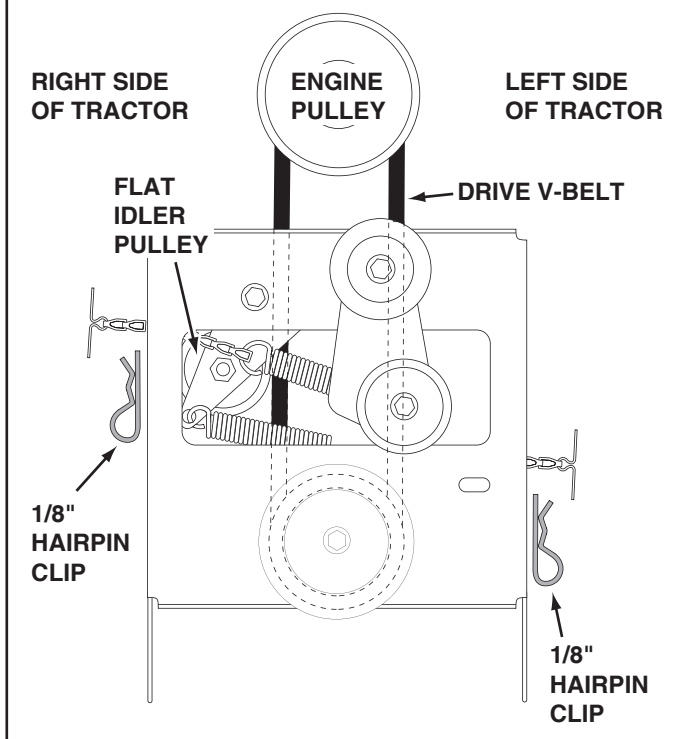

FIGURE 21 VIEWED FROM UNDERNEATH
- Remove the two **outside** 1/8" hairpin clips which are assembled to the L.H. and R.H. tension adjusting chains outside of the clutch idler assembly frame. (The clips will be reinstalled after both belts have been assembled.) **Do not remove** the 3/32" hairpin clips assembled to the chains on the **inside** of the assembly frame. See figure 21.
- Assemble the drive belt onto the tractor's engine pulley and then onto the upper rear pulley on the clutch/idler assembly. Keep the flat idler pulley on the outside of the belt. See figure 21.